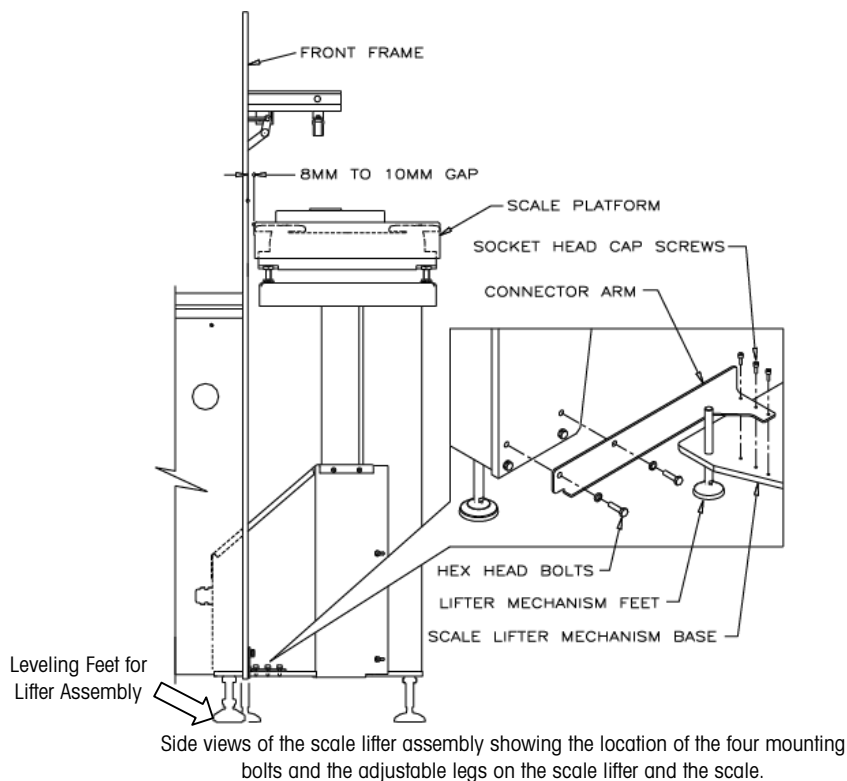

FIGURE 2-2
The Scale Lifting kit must also be leveled during installation. The connecting brackets will line up as the leveling feet are extended to the proper height. The Scale Lifting kit must be level to ensure proper operation of the scale. Figure 2-2 shows a front and side view of the scale lifter mechanism in front of the wrapper. The scale lift must be accurately positioned beneath the infeed belts for proper operation of the weighing mechanism. The assembly instructions below describe this process.
Scale Positioning: (Refer to figure 2-2)
- 1) Remove the four hex head bolts noted in Figure 2-2 from the front frame of the Model 645.